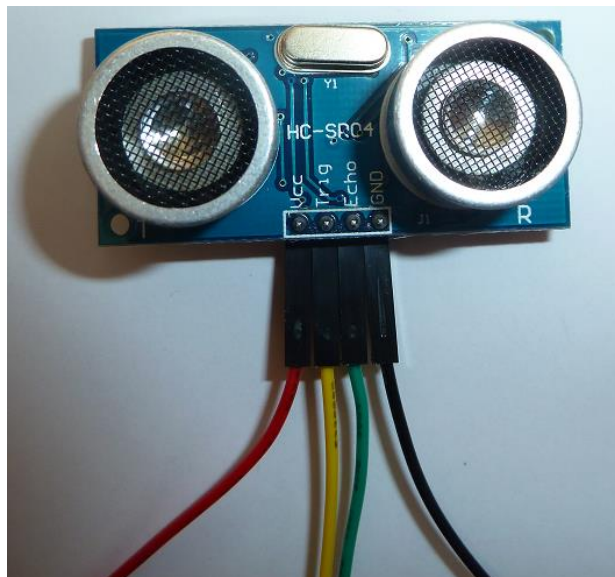
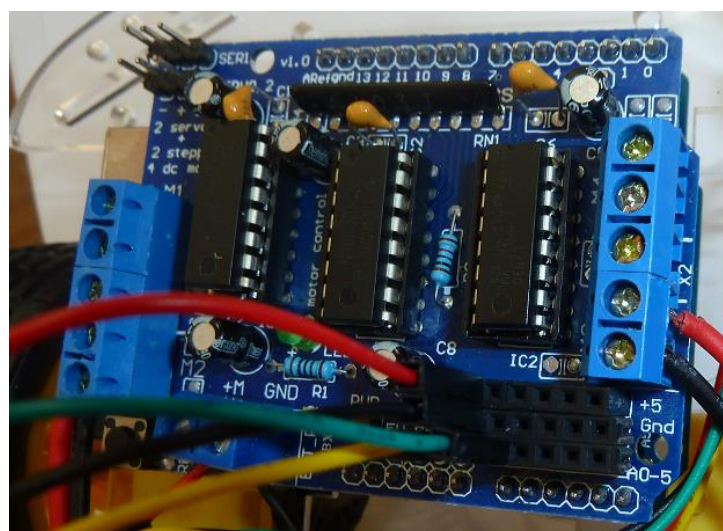

Figure 26
Figure 29
two more female to male, jumper wires and connect them to the sensor as shown in Fig. 26.
- The red wire (from Vcc in Fig. 26) goes to the pin hole “+5” (see Fig. 29)
- The black wire (from GND) goes to the pin hole Gnd (see Fig. 29)
- The yellow wire (from Trig) goes to the pin hole A0 (see Fig. 29)
- The green wire (from Echo) goes to the pin hole A1 (see Fig. 29)